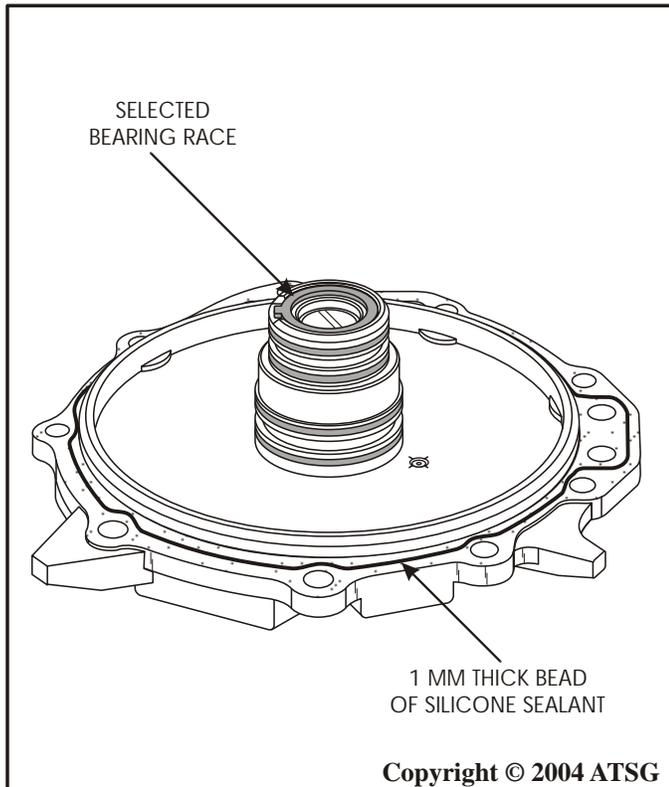

Figure 178
52. Install the selected bearing race onto the end cover and retain with Trans-Jel®[®], as shown in Figure 178.
53. Apply one-millimeter (1 mm) thick bead of Ultra Silicone Sealant (or equivalent) to the end cover surface, as shown in Figure 178.